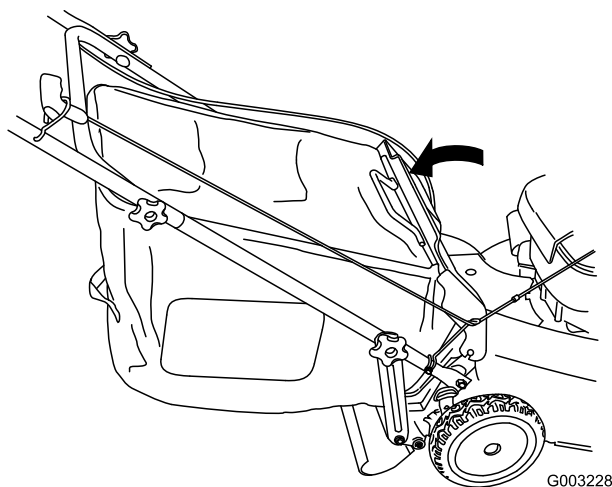

Figure 31
5. Lower the rear door (Figure 31).